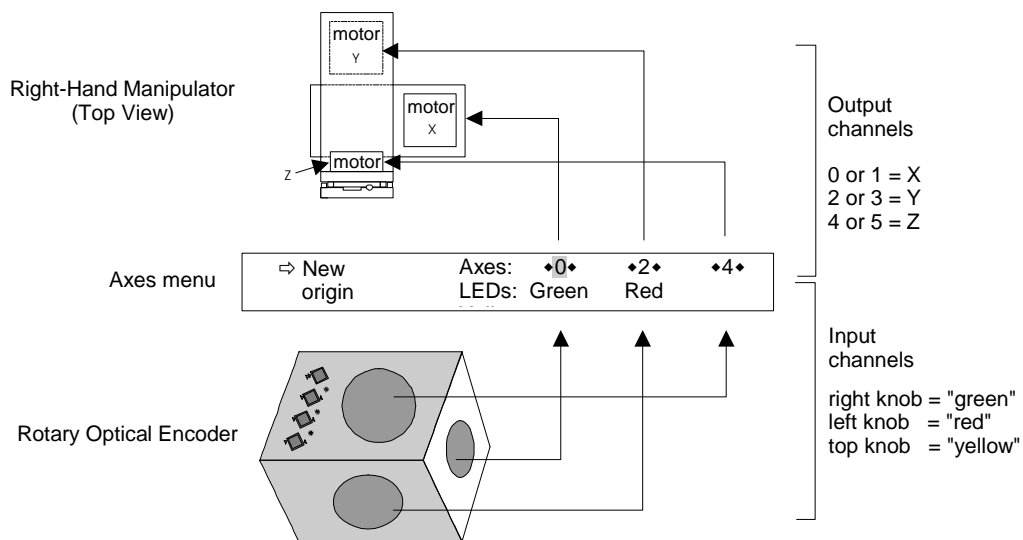
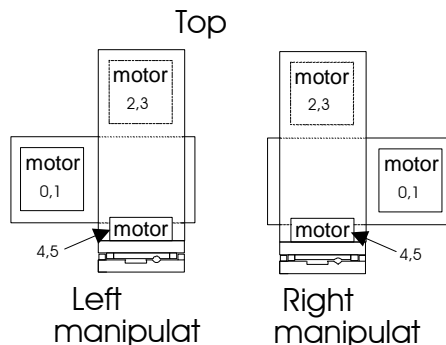

Figure 3-5. Axis assignment map.
Figure 3-6. Values assigned to each motor.
- The numbers (0...5) used in the axes menu refer to an MP-285 output channel and its polarity (direction of movement). Each pair of these channels is hard-wired to a motor: 0 and 1 = the X motor, 2 and 3 = the Y motor, and 4 and 5 = the Z motor (see Figure 3-6). It is important to remember that these relationships never change.
- To assign a specific motor to an input device axis, enter one of the two numbers corresponding to that motor (see Figure 3-5 and Figure 3-6) to the input device control being edited in the Axes menu.